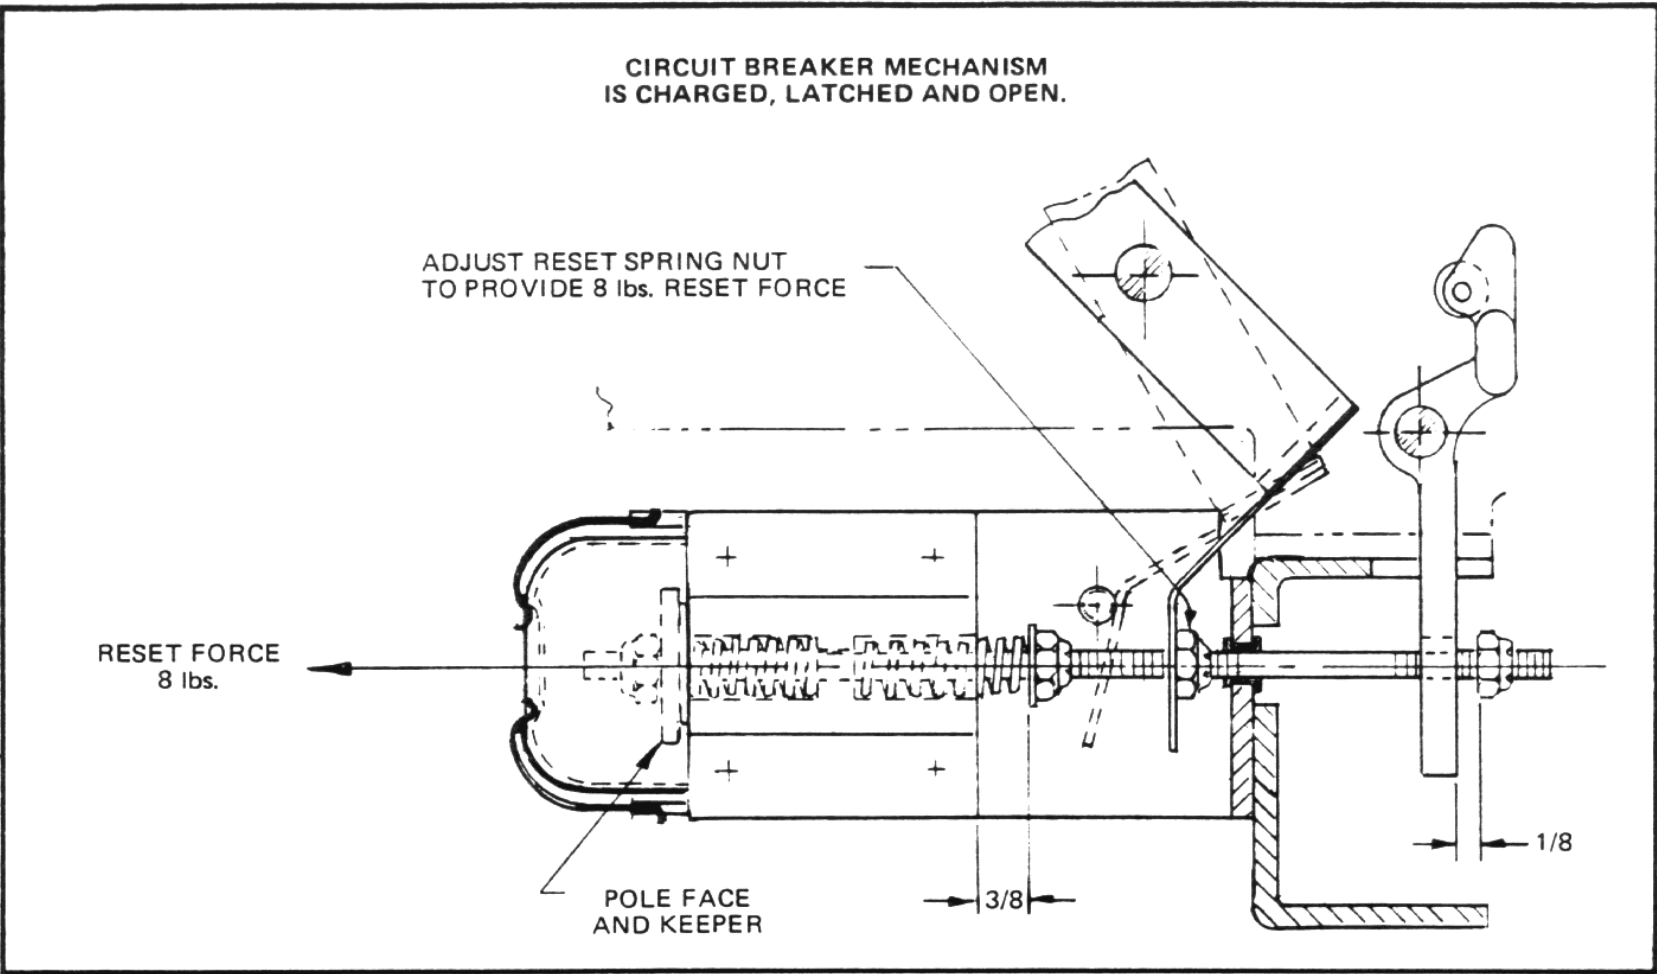

Fig. 7 – Magnetic Latch Release Assembly
The relay should be checked for pick-up, timing, and tripping functions. The magnetic latch release mechanical adjustments (see Fig. 7) should be checked. The sealed dust cover may be removed to clean the magnetic pole faces to correct relatching problems. Use duct seal or similar sticky compound to remove dirt and magnetic particles. The pole faces and keeper must be perfectly clean and dry to function properly. Reinstall the dust cover ensuring it is properly seated on the elastic sealing ring.
2) **Flux transfer magnetic latch release open circuited,** check that the wiring to the trip device is not broken and polarity marks are observed. Coil resistance should be approximately 25 ohms. The dust cover may be removed to permit mechanically releasing the magnetic keeper to test the spring and the loading force on the keeper. Fig. 7 shows mechanical adjustments.
charged, open, and relatched. Refer to Fig. 7 for correct adjustment and test standard. Remove the dust cover and thoroughly clean the magnetic keeper and pole faces. Check to ensure that the keeper is positively magnetically retained. The keeper may be forced off the pole faces to permit cleaning. Refer to appropriate circuit breaker instruction manual.